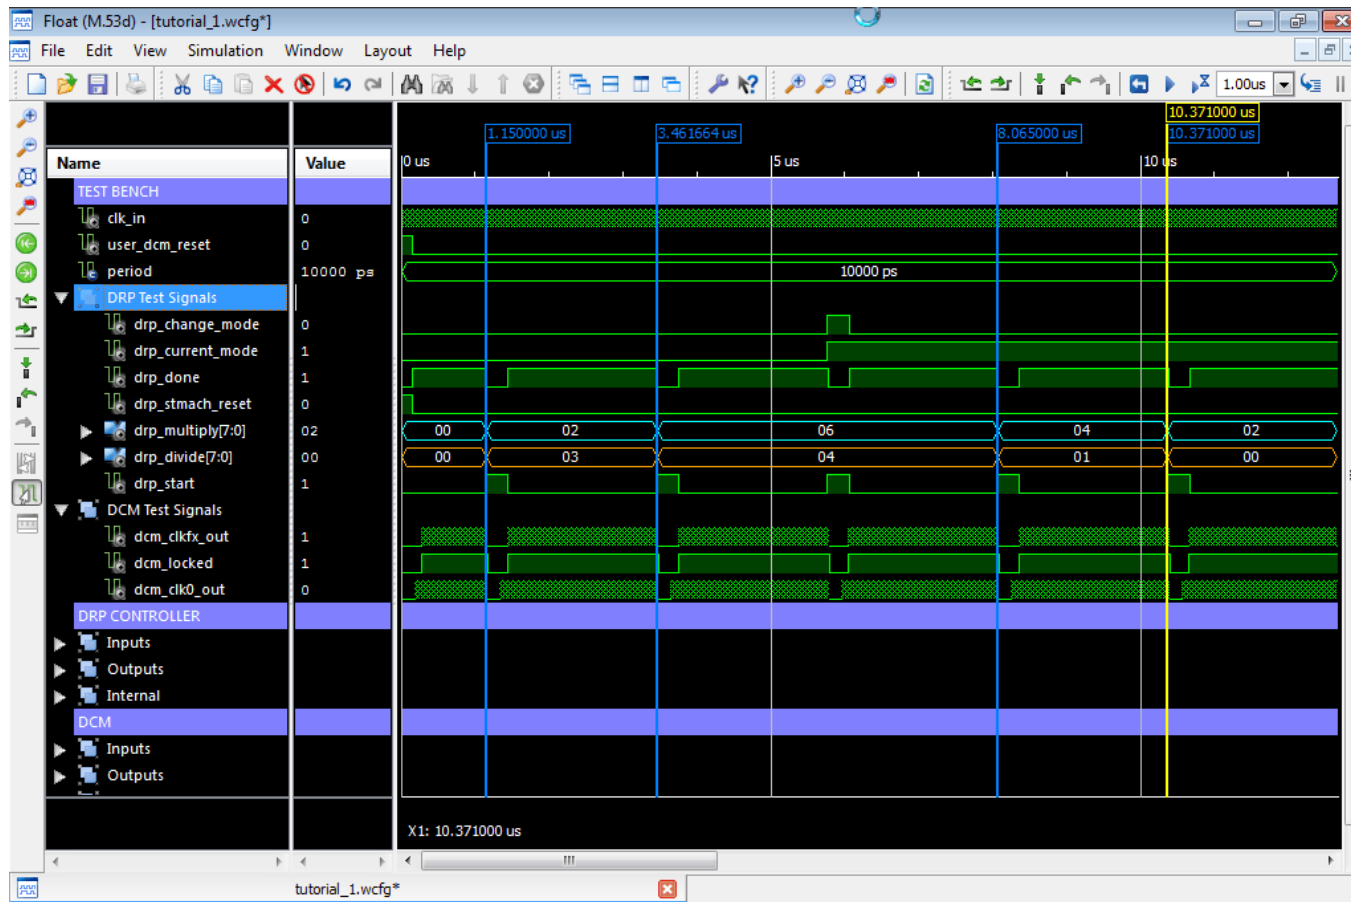

Figure 4-36: Using Markers to Identify Start of Tests
4. Repeat these steps for all four tests performed by the test bench. The Wave window should look similar to Figure 4-36.